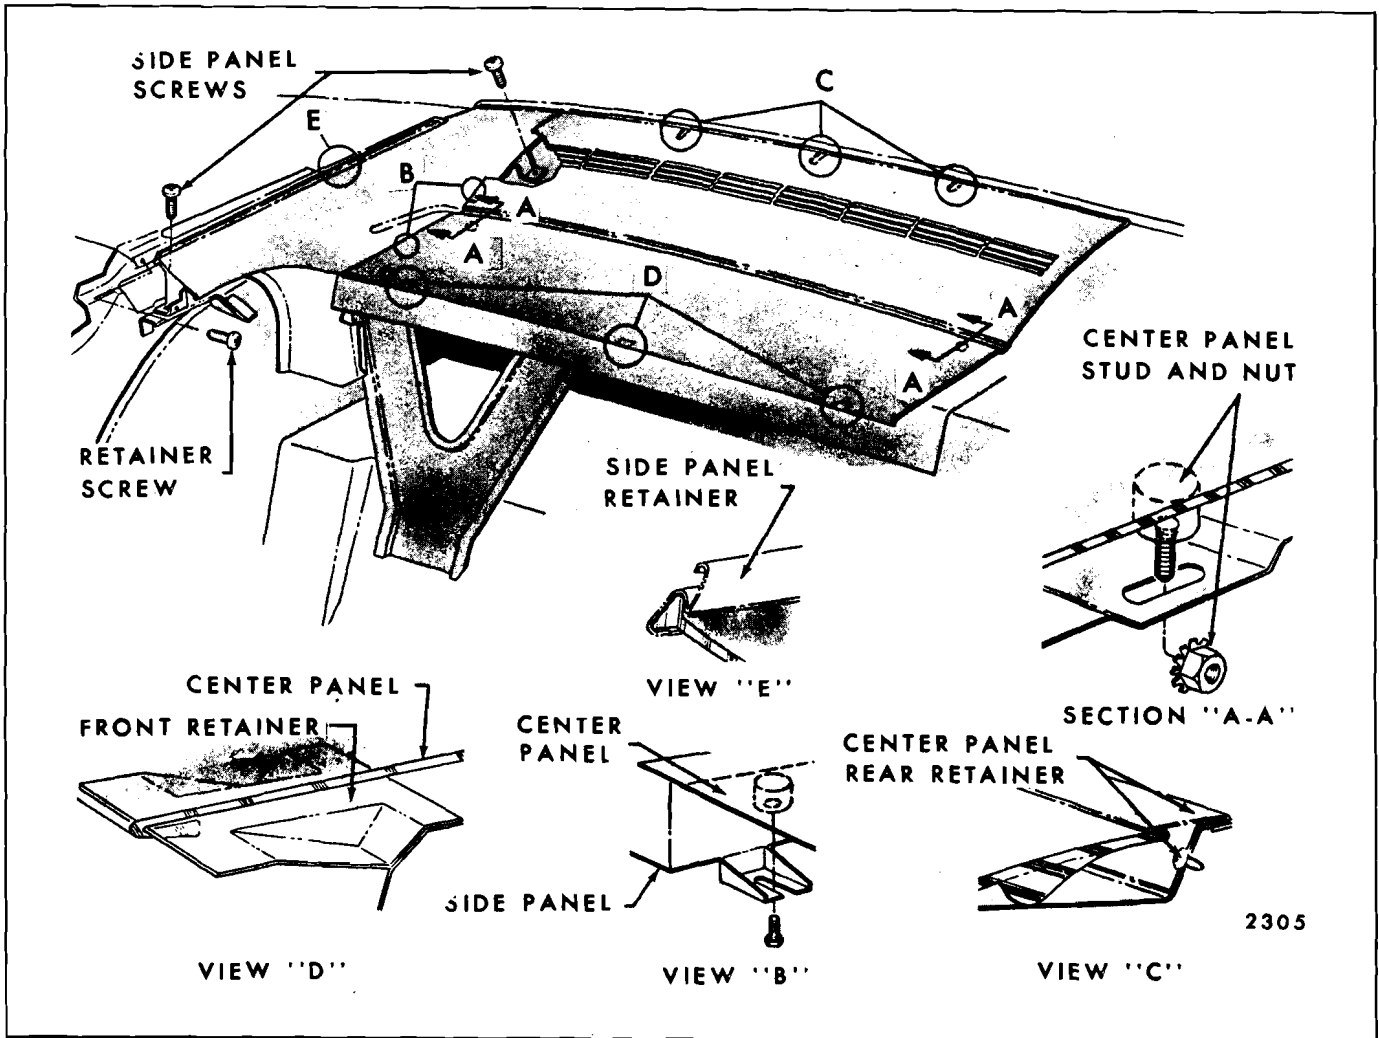

Fig. 14-41—Typical "E" Style Compartment Shelf Trim - Buick "E" Shown
2. From inside rear compartment, remove compartment shelf center finishing panel attaching nuts at locations shown in Section "A-A" in Figure 14-41.
3. From inside body loosen center panel attaching bolts and pull center finishing panel forward sufficiently to disengage both front and rear edge of center finishing panel from retainers (see View "B", Fig. 14-41); then, lift panel upward and remove from shelf panel.
3. Remove compartment shelf side finishing panel attaching screws (Fig. 14-41) and remove side finishing panel.